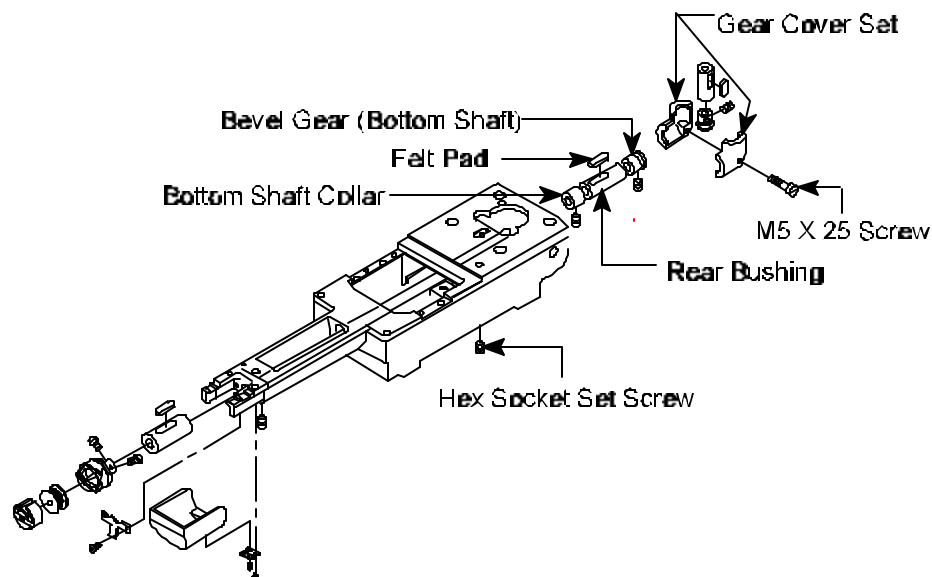

Figure 2
- Using Flathead Screwdriver, **loosen** and **remove** M5 x 25 screw from Gear Cover Set (Grease Elbow). See Figure 2.
- Using 3 mm Allen Wrench, **loosen** two screws on bottom shaft collar. See Figure 2.
- Using Flathead Screwdriver, **loosen** two screws on bottom shaft bevel gear. See Figure 2.